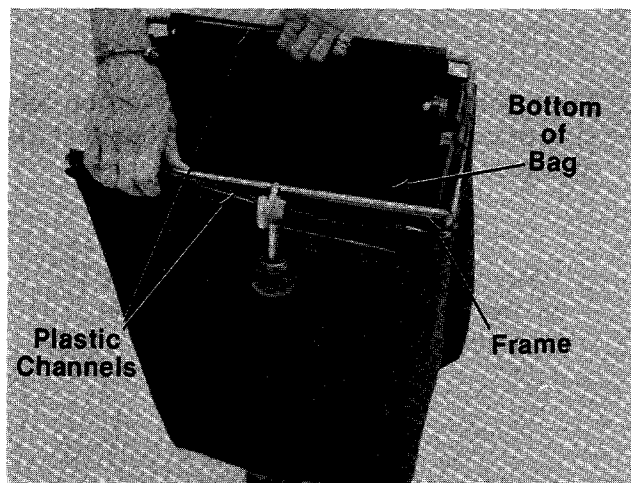

FIGURE 7.
- ← 3. Secure bag to frame by slipping plastic channels on bag over frame. See figure 7.